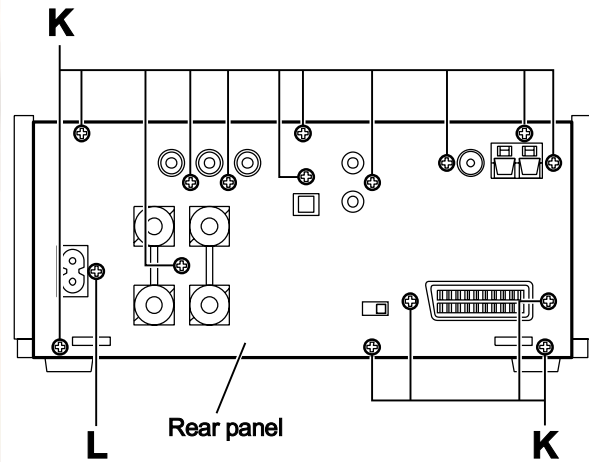

Fig.9
(See Fig.9.)
(See Figs.9 and 10)
- (1) From the back side of the main body, remove the screw **L** attaching the switching power unit. (See Fig.9.)